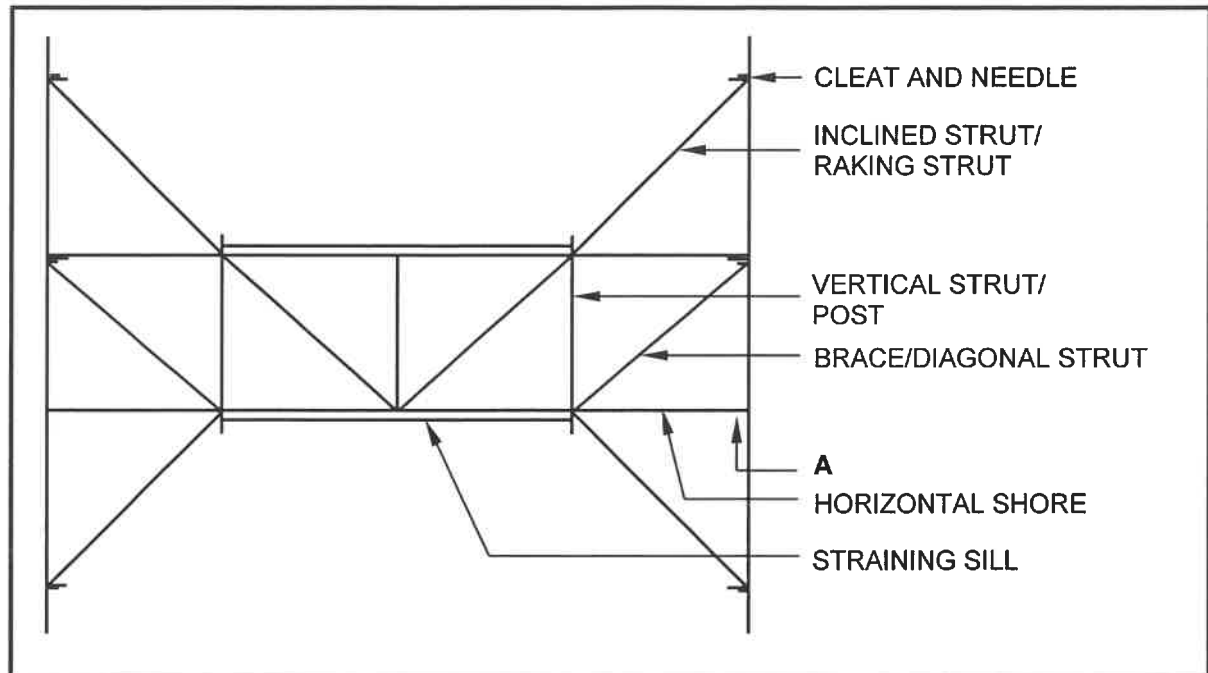

FIGURE 5.2
- D All the above-mentioned (1)
- 5.2 FIGURE 5.2 below shows a line diagram of a shore. Analyse the drawing and answer the questions that follow.